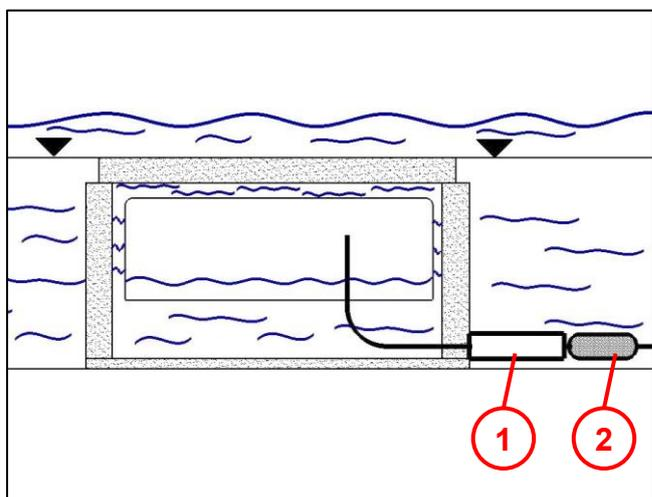

Fig. 2
Ensure that supply and discharge cables/lines (4) are tightly sealed (see Fig. 2) to prevent a “snorkel effect” in rising water.